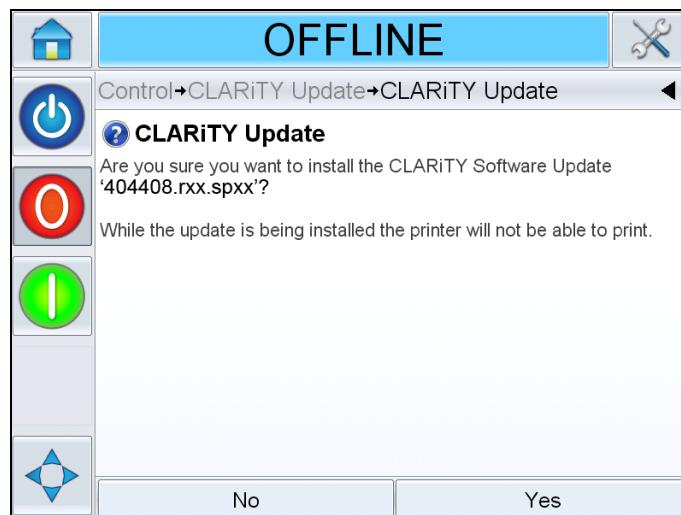

Figure 6-8: CLARiTY Confirmation Page
- 6 Touch OK, a confirmation page appears (Figure 6-8).